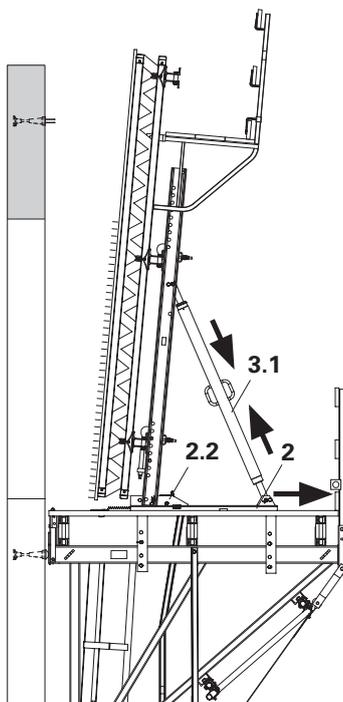

Fig. B1.15
4. Retrair o carro (2).
- (Fig. B1.15)